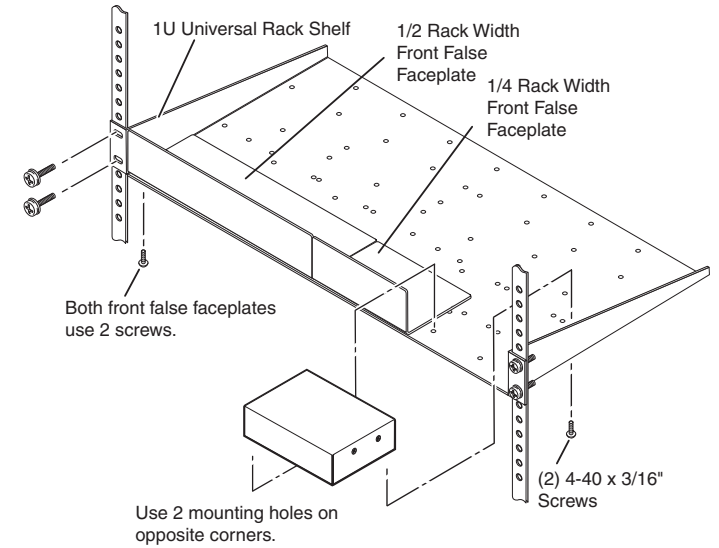

Figure 3 — Mounting the SEQ on a standard rack shelf
- RSU 129 9" deep 1U universal rack shelf kit (part #60-190-01) (figure 3)
On the non-VersaTools rack shelves, the SEQ can be mounted in the front or the rear of the rack (figure 3).